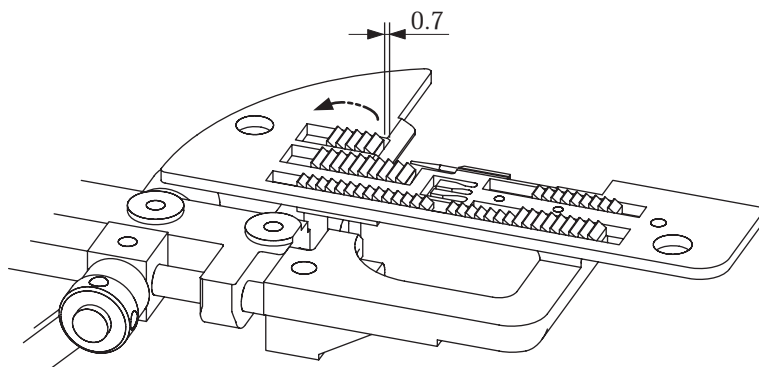

Fig.2
2. Turn the handwheel towards you until feed dog moves to far front position. Check and make sure if a clearance between feed dog and needle plate is 0.7 mm. (Fig. 2)